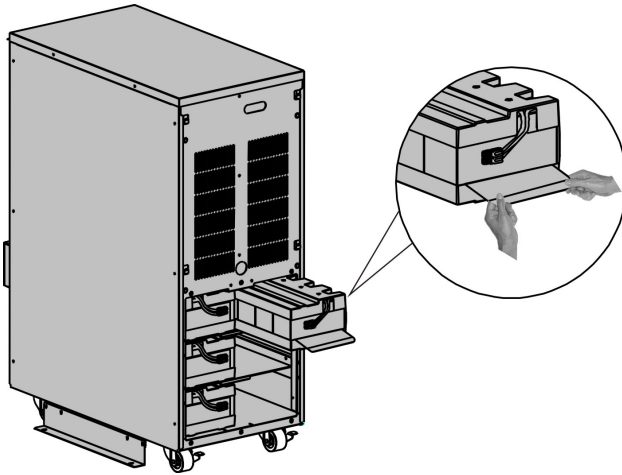

Fig. 8-3 Easy for Battery Replacement -Step 3
- 3) Remove the battery pack from the cabinet. See Fig. 8-3.